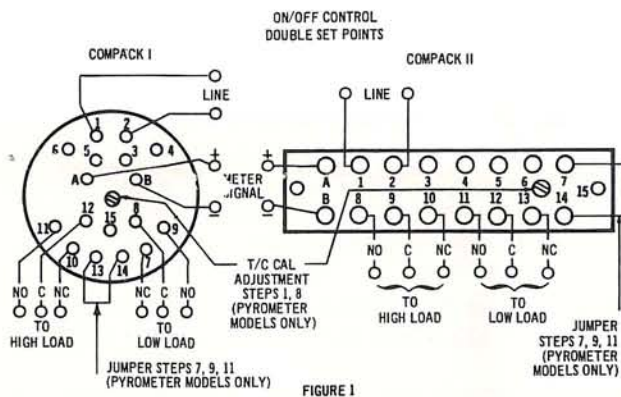

FIGURE 1
1. On/Off Control: API Compack controllers are generally used as On/Off temperature, current, or voltage controllers. (See Figure 1.)
Wire the load and input power terminals per the appropriate connection diagram (Figures 1 through 4). Remove the shorting clip from the input signal terminals.
1. Rotate the T/C CAL adjustment (potentiometer) to the center of its rotation. (See Figures 1 through 4 for the appropriate potentiometer adjust location.)
7. Connect jumper wire between terminals 13 and 14 (Compack I) and terminals 7 and 14 (Compack II). (Use caution when connecting or disconnecting the jumper wire in Steps (7) and (9), since power is applied to the control.)